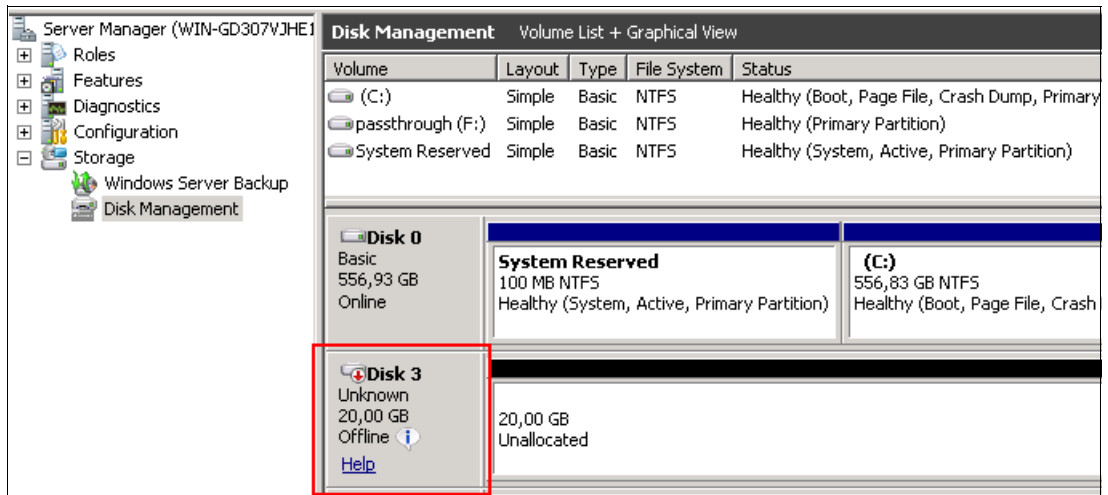

Figure 3-23 Disk management
- In the disk management of the Windows 2008 server, ensure that the LUN is visible and in state **offline**, as shown in Figure 3-23.